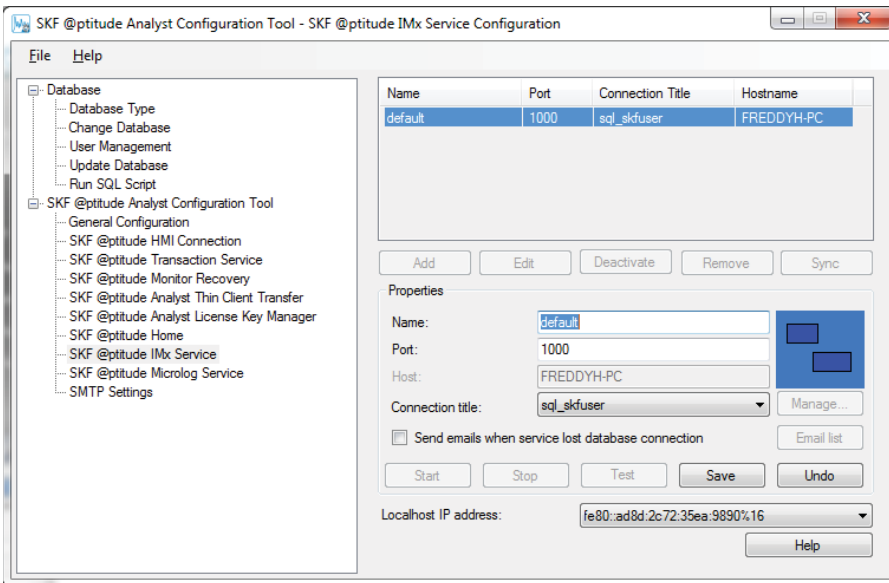

Fig. 19. Configure the SKF @ptitude IMx service.
- Click **Add** and name the service (→ fig. 19).